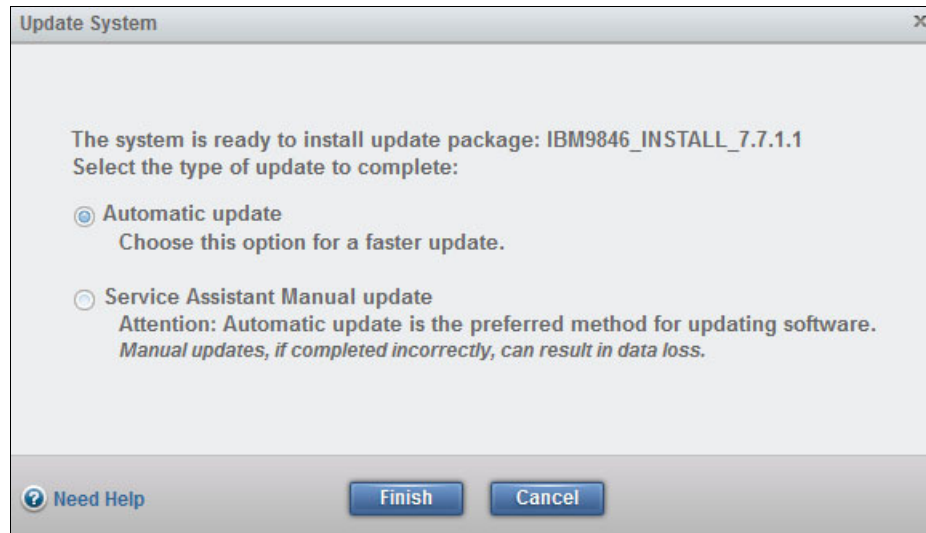

Figure 5-78 Automatic or manual update
3. You are prompted whether you want the update to be automatic or manual. Select **Automatic update** (Figure 5-78) and then click **Finish**.